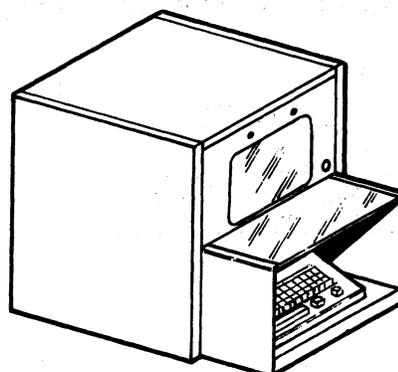

Fig. 1—KD Enclosure (Table Mounted)
1.01 This section provides installation and maintenance information for DATASPEED 40/4 Environmental Enclosures (Fig. 1 and 2) which extend the use of DATASPEED 40/4 terminals to high stress environments of industrial and manufacturing locations. The enclosures are used in areas characterized by the occurrence of certain airborne environmental hazards.